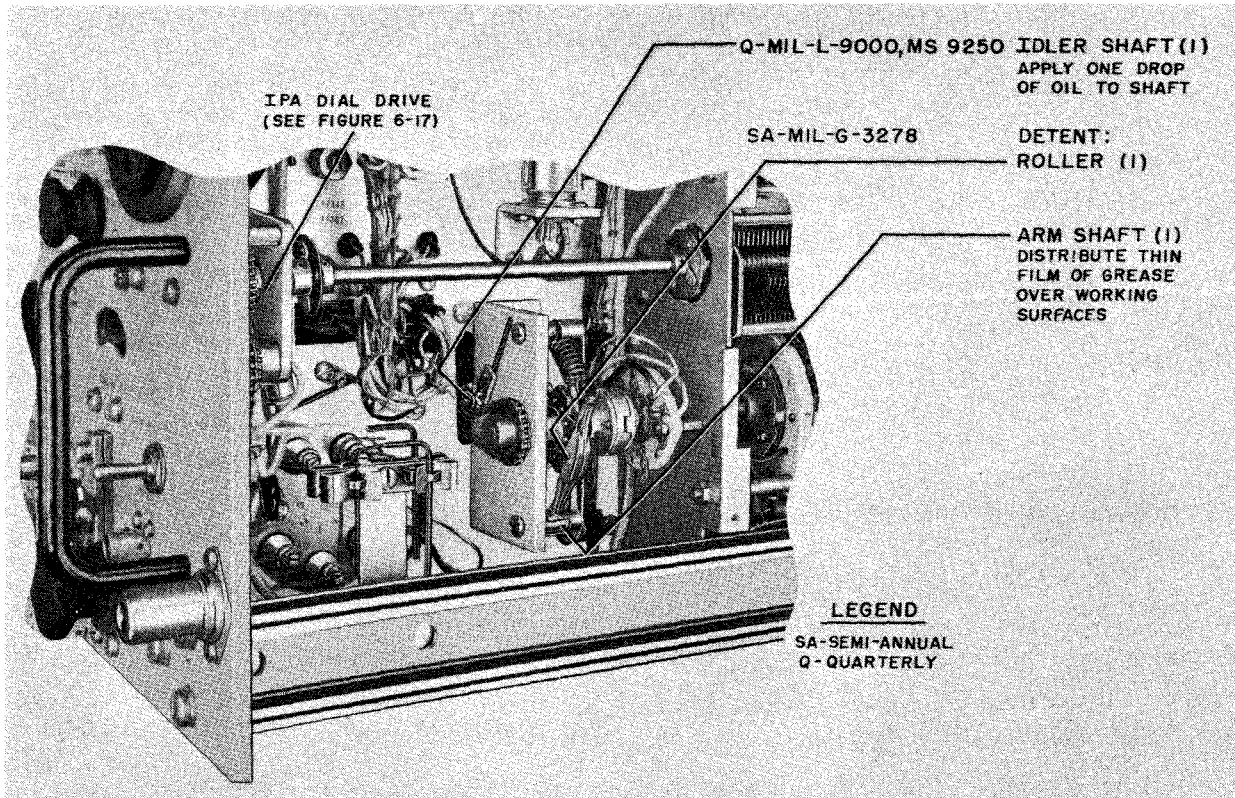

Figure 6-16. RFA, Right Side, Bandswitch Lubrication
(c) BANDSWITCH MECHANISM (RFA).—A portion of the right side of the RFA is shown in figure 6-16. This illustration describes the procedure used to lubricate the detent roller, arm shaft, and idler. Reference to the IPA dial drive is also made.
- (d) Figure 6-16
- (e) Figure 6-16